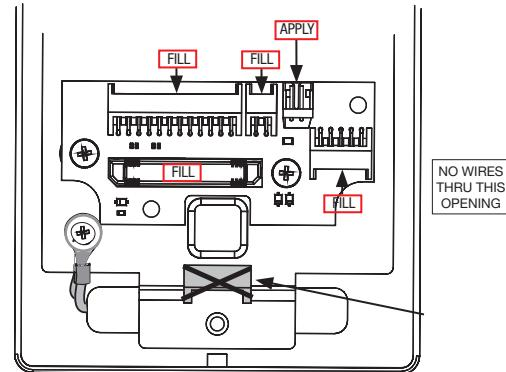
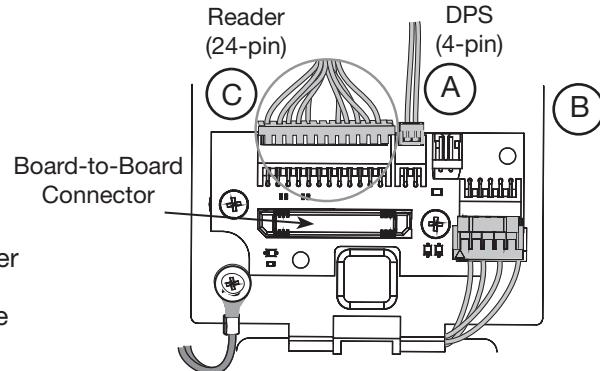

Fig. 16a
Fig. 16b
- Ensure all connector pins and contacts (Fig. 16a) are covered - do not overfill or over-apply**
IMPORTANT: Do not run wires through bottom hole in plate (Fig. 16a, b) - it will damage wires and the controller connector. Route wires around flange, do not route wires through the flange hole (Fig. 16b).
Secure the following connectors (Fig. 16b, c):
- Secure the mounting assembly while ensuring proper alignment of outside reader and fully tighten the (2) through-bolts on the inside of the door to secure the reader and plate to the door
- Secure the 24-pin card reader connector (Fig. 16b, c).